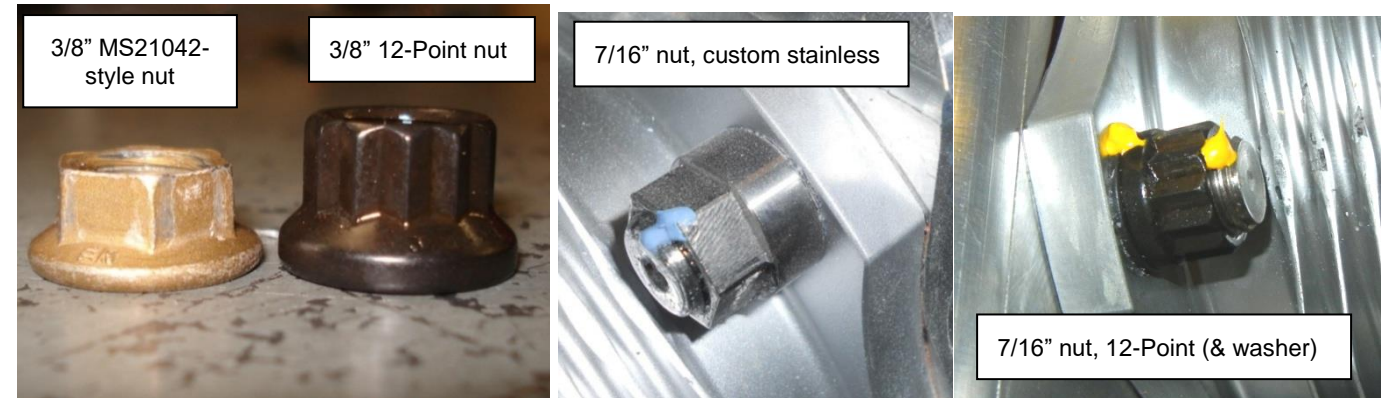

Figure 143 – 12-Point Nuts, 7/16” Hardware (on right)
- Later engines (See Section 13 for serial number ranges) use 7/16” hardware on the engine through bolts and studs. On these parts a custom-made nut (shown in Figure 143) is used. At overhaul these are to be removed and 7/16” 12-point nuts & washers fitted (Figure 143 right).